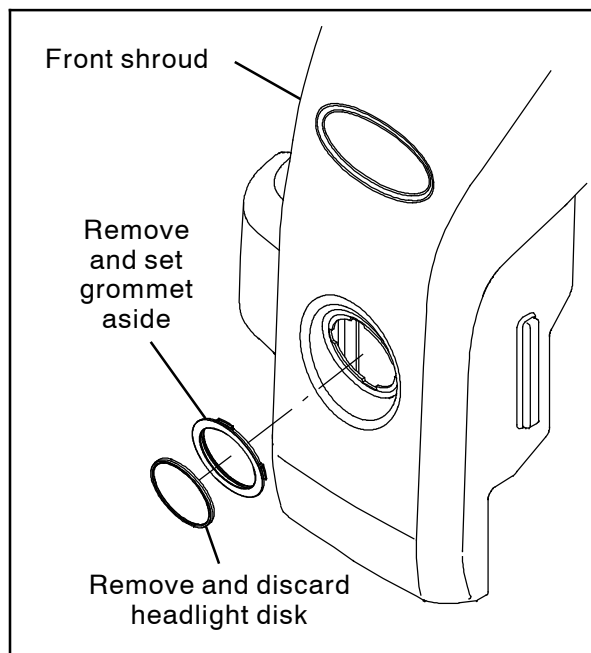

FIG. 1
1. Remove the head headlight disk and grommet from the front shroud. Set the grommet aside. Discard the headlight disk. (Fig. 1)